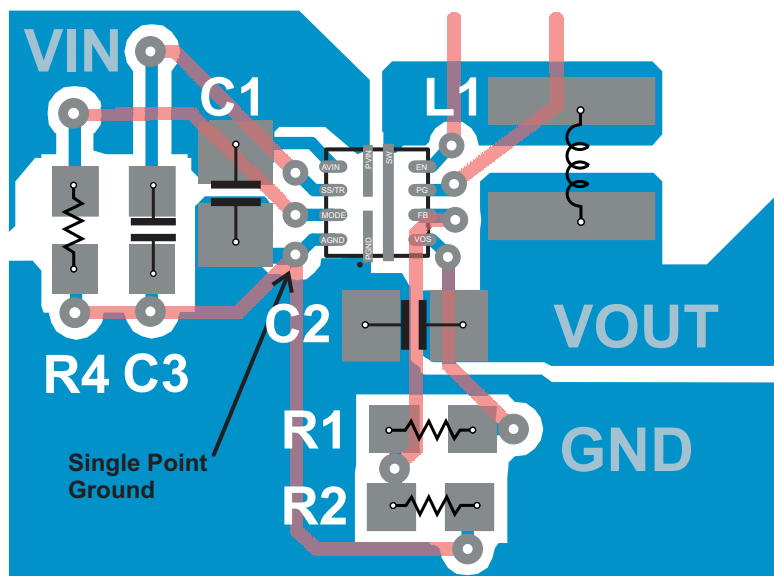

Figure 32. TPS62097 PCB Layout
- Refer to Figure 32 for an example of component placement, routing and thermal design.